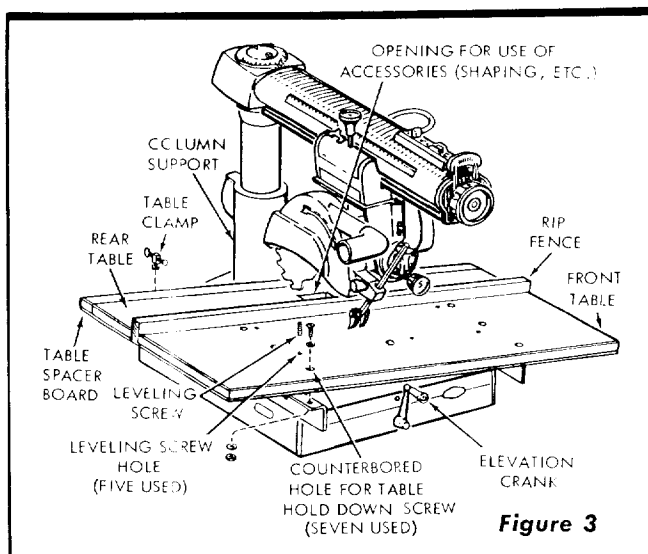
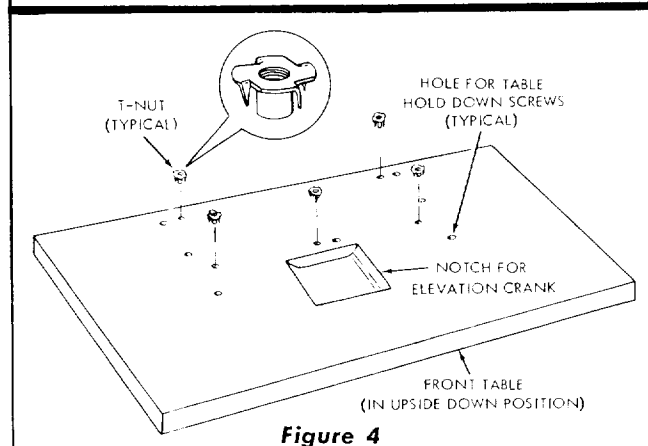

Figure 3
Figure 4
The saw should be placed on a suitable sturdy work bench and the base positioned so that the elevation crank is free to rotate. (See figure 3.) The base of the saw must be mounted flush to a flat surface on the work bench to prevent distortion of the saw base. The nuts, screws, and washers which attach the wooden shipping skids to the saw base may be used to secure the saw base to the work bench.
1. Place the large table board upside-down on floor. The bottom side has a notch (cutout) for clearance of elevation crank. (See figure 3.) Distinguish between the five through-bored (leveling screw) holes and the seven counterbored holes. Drive T-nuts into the five through-bored holes. (See figure 4.)
2. Place the large table board on channels as shown in figure 3.
2. Insert a set screw (leveling screw) into each of the five leveling, T-nuts. (See figure 4.) Insert screws from the top side until they just touch the top of the base.
13. If the table is high at the center, lower it by tightening the screw (6). When the table is adjusted parallel to the radial arm, rotate the set screw (5) clockwise until it bottoms on the base. This will serve as a lock for the adjustment of screw (6).
14. Place the rip fence in vertical position behind front table board. (See figure 3.)
17. Install the table clamps at locations shown in figure 3 and tighten them securely against the edge of table spacer.